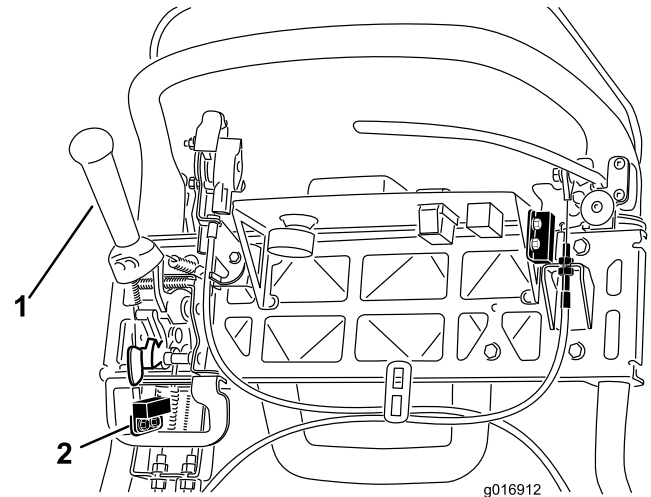

Figure 38
4. Loosen the interlock switch mounting fasteners (Figure 38).
5. Place a 1.6 mm (0.062 inch) thick shim between the traction lever and the interlock switch (Figure 38).